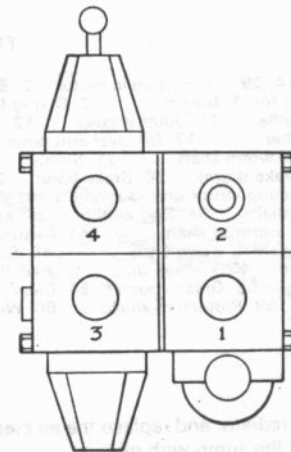

FIG 14:28 Pipe fitting sequence, control valve
- Pass the oil temperature gauge capillary tube through and attach the gauge to the dash with the bracket supplied. Fit the bulb end of the tube in the thermometer pocket. FIG 14:35, item 42, FIG 14:36, item 36.
Key to Fig 14:28